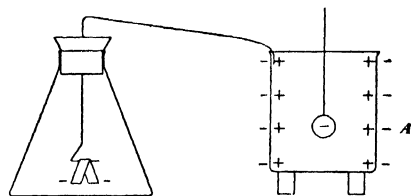

FIG 46
**VI To prove that + and - electricities appear in equal amounts.** (a) Charge a steel ball negatively and bring it carefully inside of vessel *A* (Fig 46), which is connected by a wire to the electroscope. The divergence of the leaves will measure the charge induced on the outside of *A*. Touch the ball to the inner wall of the vessel. The divergence of the leaves is now a measure of the charge which was originally on the ball, for this charge has all passed to the outside (see V). Did the divergence change at all when the ball touched the wall? What conclusion do you draw regarding the minus charge on the ball and the minus charge induced by it on the outside of the vessel?